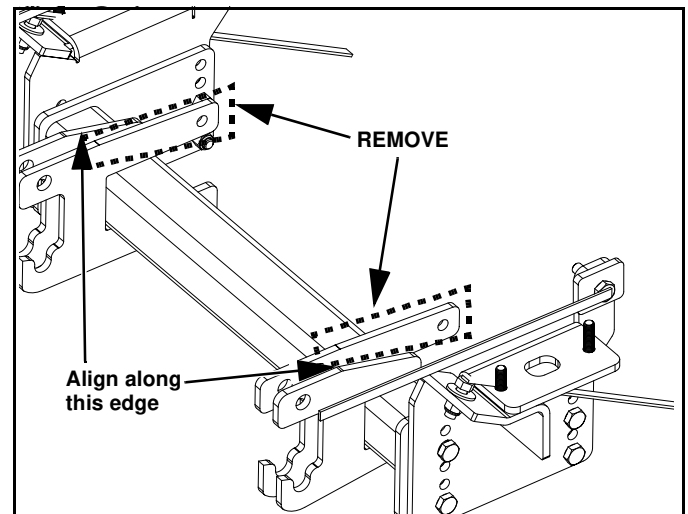

Figure 5
**NOTE:** When mounting to the desired height for 26 series Vehicle Center Mounts, the vehicle could either be raised or the top inside lugs of the Vehicle Center Mount can be cut off and touched up with paint so to avoid interfering with the bumper (See Figure 5).